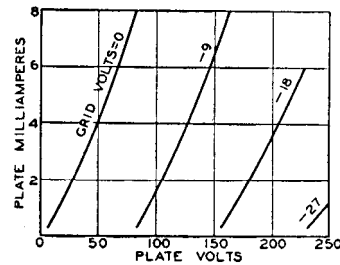
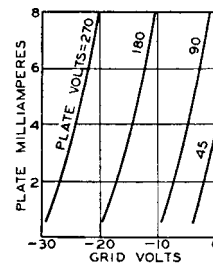

Fig. 11
Fig. 12
**Static characteristics** may be shown by plate characteristics curves and transfer (mutual) characteristics curves. These curves present the same information, but in two different forms to increase its usefulness. The plate characteristic curve is obtained by varying plate voltage and measuring plate current for different grid bias voltages, while the transfer-characteristic curve is obtained by varying grid bias voltage and measuring plate current for different plate voltages. A plate-characteristic family of curves is illustrated by Fig. 11. Fig. 12 gives the transfer-characteristic family of curves for the same tube.